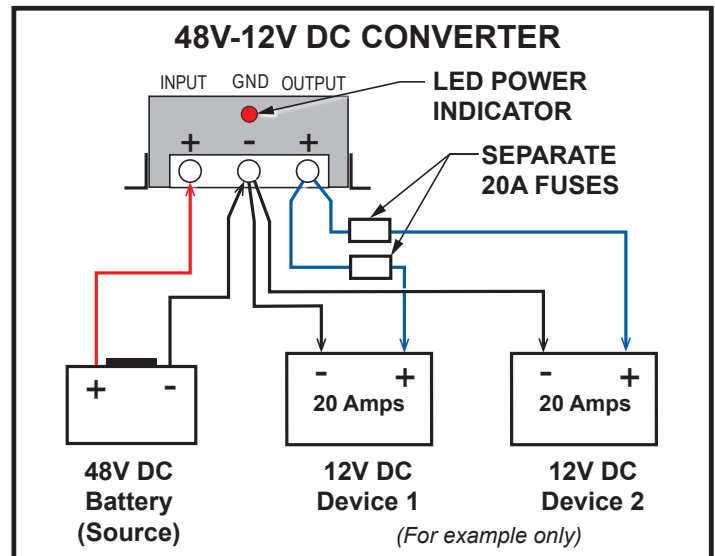

Fig. 2 - Wiring Multiple Loads
For example: if wiring two (2) pumps that are rated at 20 amps each, there should be two (2) fuses each rated for 20A on the positive output wires as close as possible to the converter. (See example in Fig. 2 - Wiring Multiple Loads)